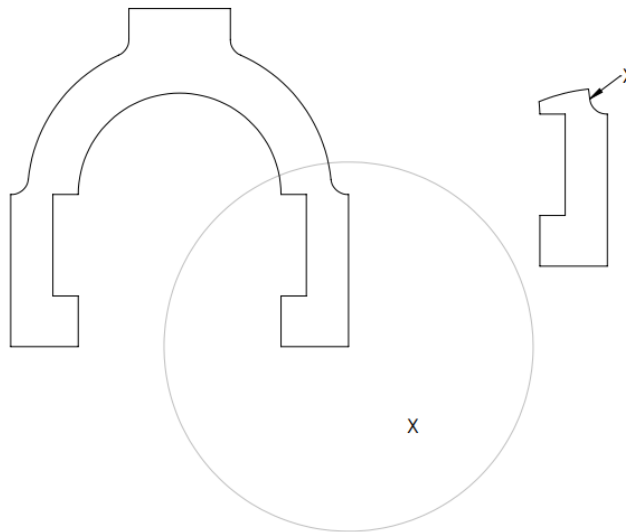

Figure 5.2
- c) What is the name of the view indicated by X in the above Figure 5.2?